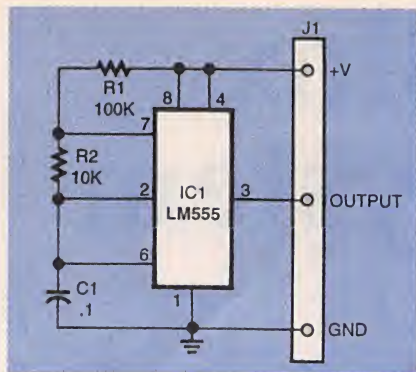

Fig. 1. A clock generator built around an LM555 is a handy BreadBlox. The frequency can be adjusted to suit, and the output can be both TTL and CMOS compatible.
**The Clock Generator.** Figure 1 is the schematic diagram for the clock generator. It is built around IC1, an LM555 timer running in its astable mode. The circuit needs only three connections to the breadboard—power (between 5 and 15 volts), ground, and output. The astable mode of a 555 provides a constant-frequency squarewave based on the values of R1, R2, and C1. The formula is: